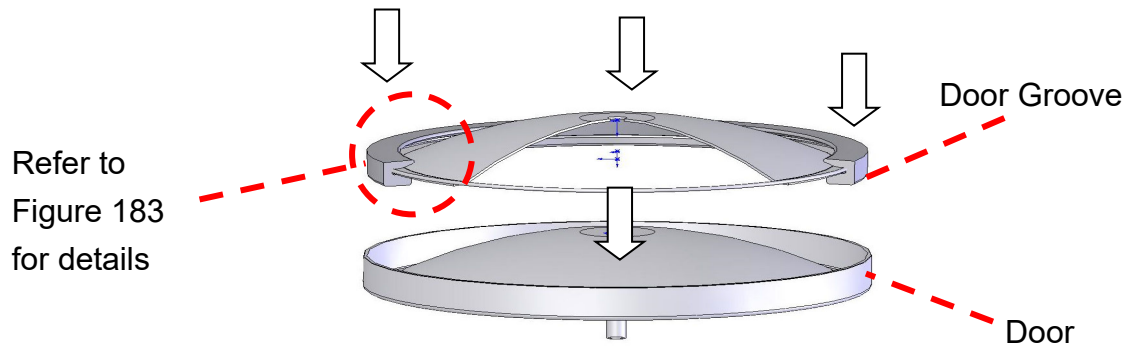
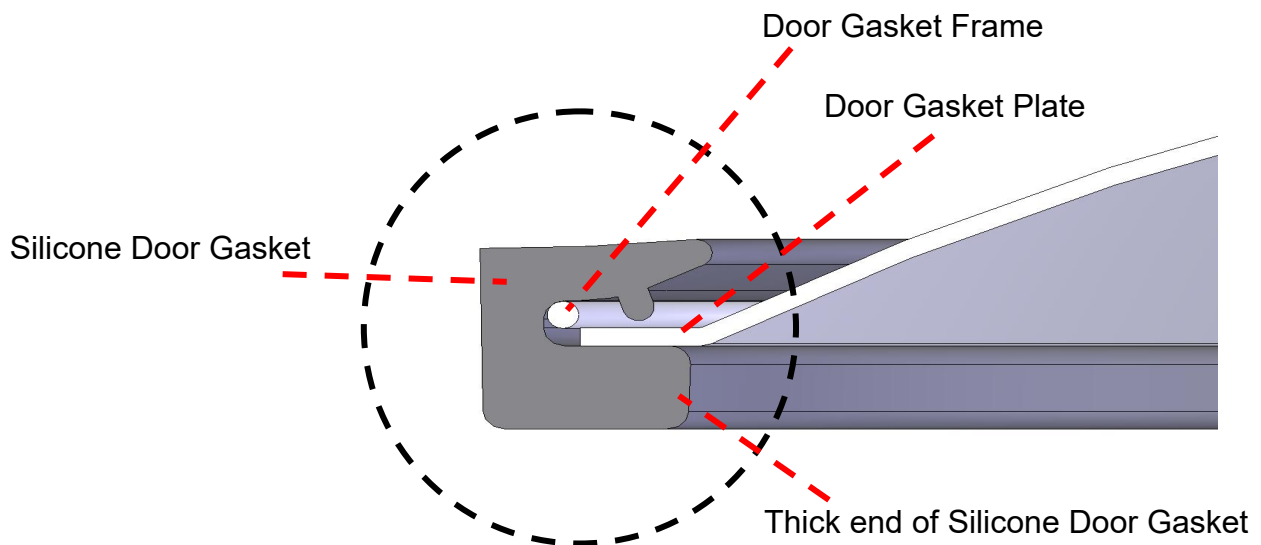

Figure 182
Figure 183
3. Install the gasket with the door gasket frame, door gasket plate inside to the door groove. Press the gasket into the door groove evenly as shown in Figure 182. Take thick end of silicone door gasket of the installation direction while pressing the gasket into the groove. Refer to Figure 183 for the correct direction.